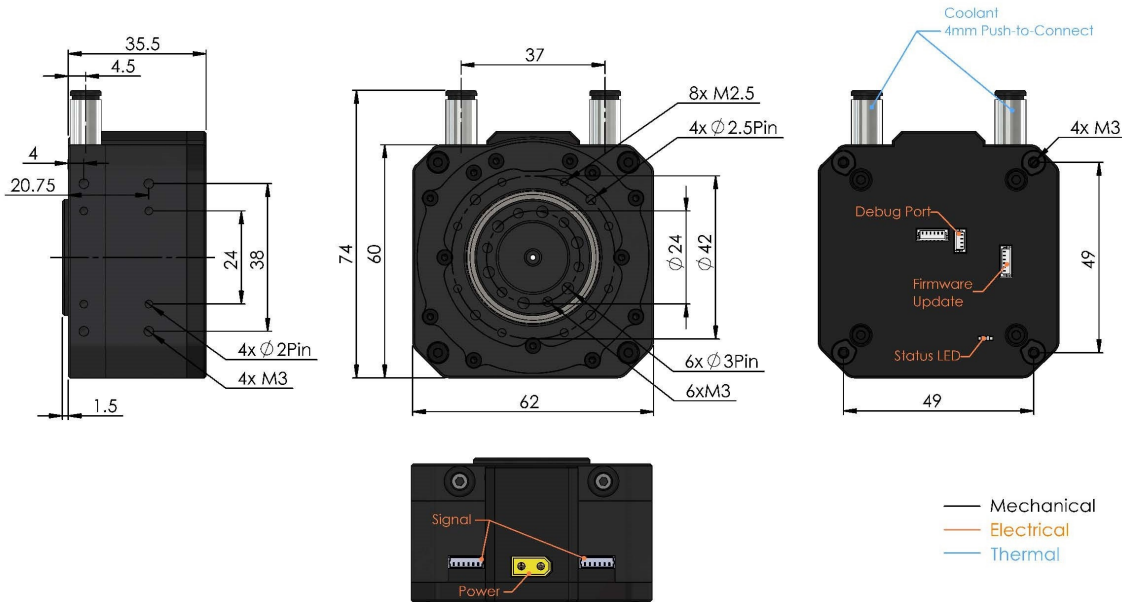

Figure 1: Koala BEAR V2 Specs
Koala BEAR V2(KB02) is a small actuator designed for highly dynamic applications with relatively low loads, such as all kinds of small mobile robots, robot hands or robot manipulators. The mechanical and electrical as well as the thermal management features are introduced as following, with the help of figure 1.
- **Mechanical Features** The dimensions and locations of mounting features are annotated as in figure 1. There are six M3 screw holes and six 3mm pin holes on the output shaft for locating and connecting the payload. The eight M2.5 screw holes, four 2.5mm pin holes located on the front side as well as the four M3 screw holes and four 2mm pin holes on three sides can all be used to locate and mount KB02 to its application. Besides, there are also four M3 screw holes on the back that are axisymmetric about the output shaft, and these four M3 screw holes can also be used as mounting points or to mount additional bearings under certain application.